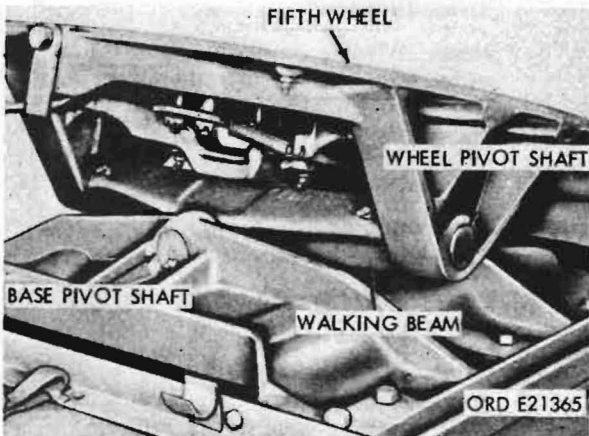
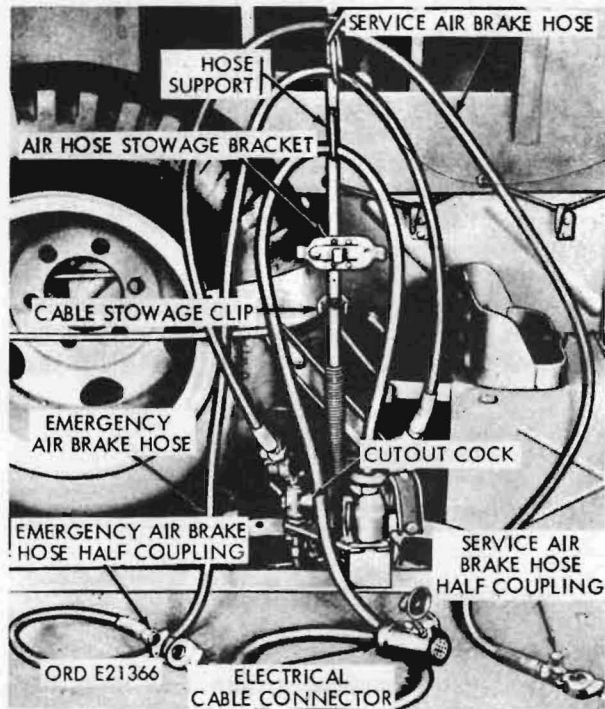

Figure 117. Fifth wheel
Figure 118. Air brake hose support
The tractor truck (fig. 9) is equipped with a deck plate and a trailer skid plate, but has no body. The fifth wheel (fig. 117), mounted on the rear of the chassis, provides for attachment of the semitrailer. The airbrake hose and electrical cable, for trailer brake and lighting service, are stowed on airbrake hose support (fig. 118) behind the cab of the vehicle.
58. Fifth Wheel (Fig. 117)
b. Airbrake Hose Coupling Cutout Cocks (Fig. 118). The service and emergency airbrake hose coupling cutout cocks serve to turn on or shut off air at the service and emergency airbrake hose couplings. The cutout cocks are turned on after connecting the air-hose lines to the couplings, and turned off before removing the lines. The emergency cock is the only manual valve control over emergency air and must not be left turned on with air line removed. The service air line control is maintained by the airbrake hand control valve (a above).
- (1) Position tractor ahead of trailer with fifth wheel nearly touching and in line with semitrailer. Set hand brake. Check elevation of skid plate on bottom of trailer in reference to height of tractor's fifth wheel in level position. Trailer should be slightly lower to ensure coupler jaws properly engaging trailer king pin. Elevation of trailer's skid plate can be changed by raising or lowering the trailer's landing gear. Chock trailer wheels if chocks are available.
- (2) Turn coupler jaw locking plunger safety latch to right or left, and pull forward on coupler jaw locking plunger operating handle, until handle remains in forward position.
- (3) Connect airbrake hoses to semitrailer using the following procedure:
- (a) Remove service and emergency airbrake hose from airbrake hose support (fig. 118).
- (c) Turn on both airbrake hose cutout cocks (fig. 118).
- (5) Stop tractor and apply parking brake.
- (6) Check coupler jaw locking plunger operating handle and safety latch to make sure they have returned to locked positions.
- (7) Place tractor in gear with trailer brakes on and pull to ensure coupler jaws are locked.
- (8) Raise trailer's landing gear and remove chocks.
- (9) Connect electrical cable (fig. 118) using following procedure.
- (a) Turn off airbrake hose coupling cutout cock (fig. 118).
- (c) Install airhoses on airhose stowage bracket (fig. 118).